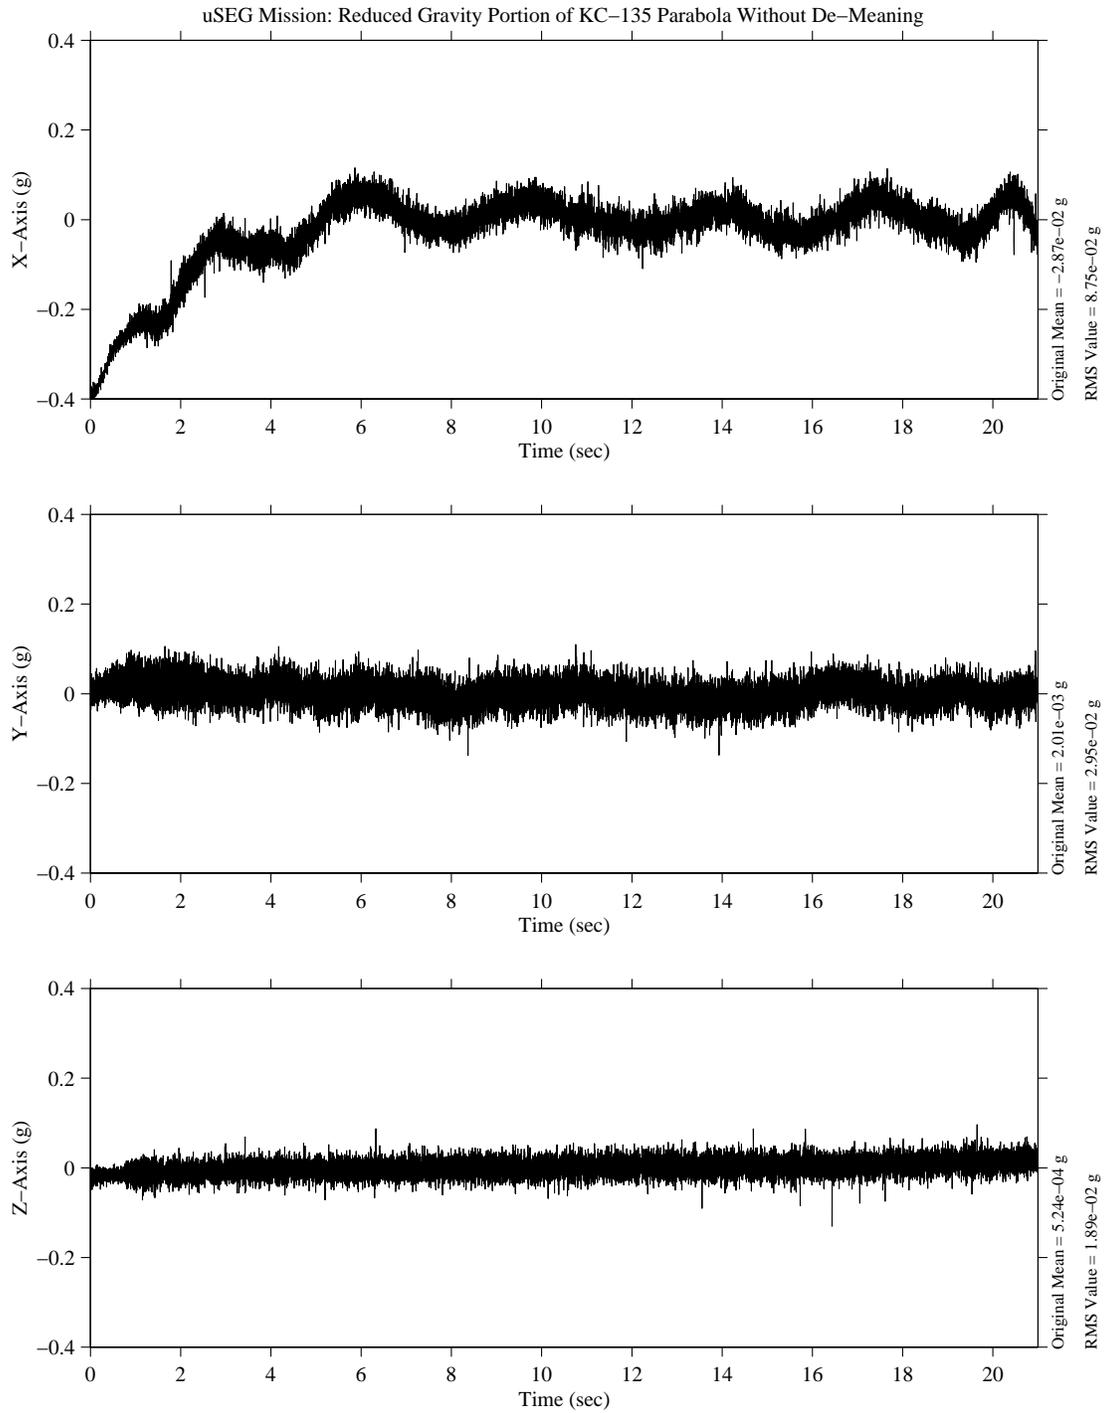

Figure 11-5
- **Figure 11-5 is a detailed plot of the KC-135 environment during the reduced gravity portion of the parabola as recorded by SAMS-FF**